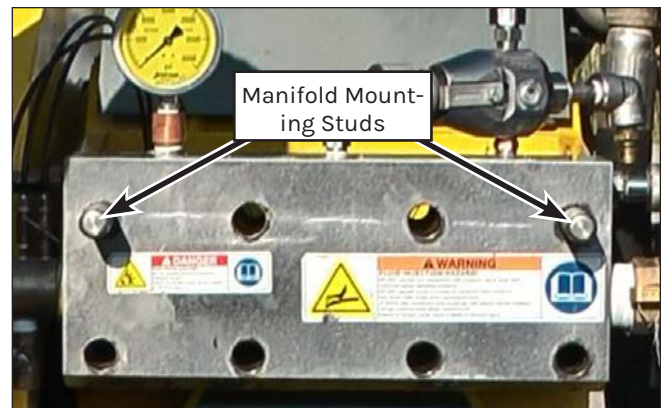

Figure 71: Lift the New Manifold onto the Mounting Studs.
20. Lift the new manifold onto the manifold mounting studs (Figure 71).